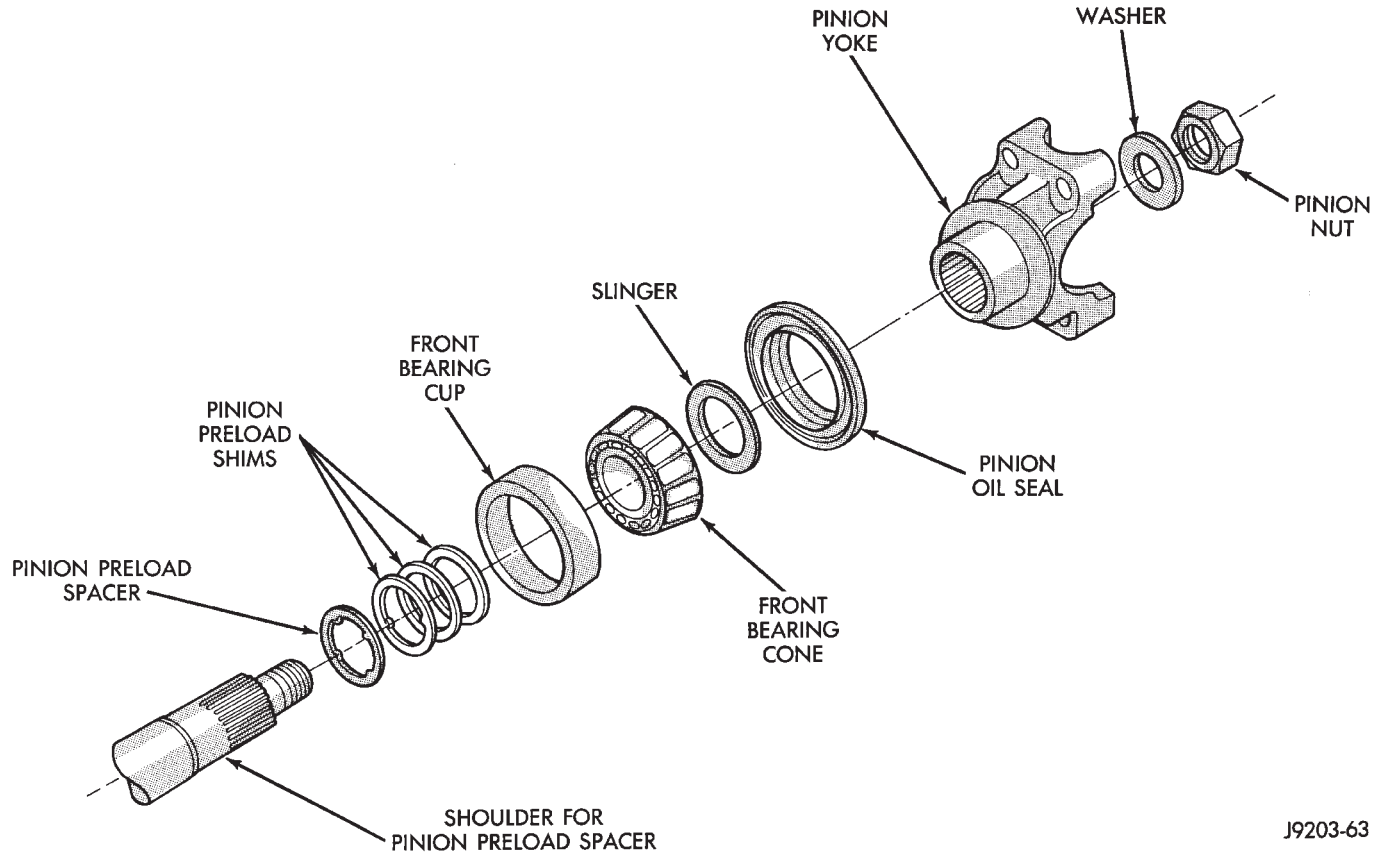
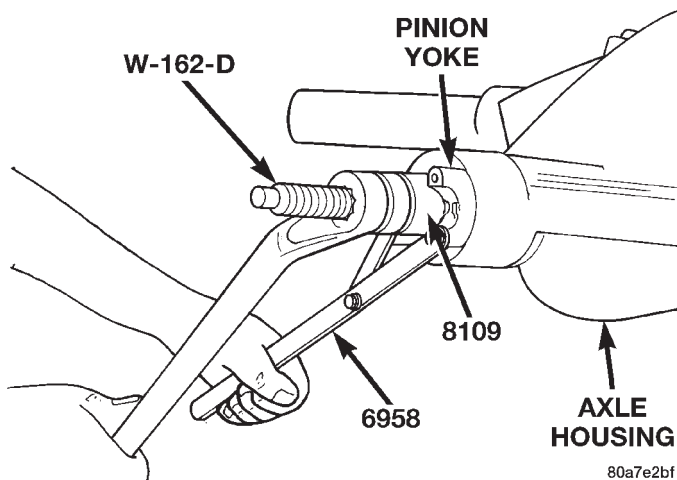

Fig. 37 Pinion Preload Shims—Typical
Fig. 38 Pinion Yoke Installation
(7) Install pinion bearing preload shims onto the pinion gear (Fig. 37).
(8) Install pinion gear in housing.
(9) Install yoke with Installer W-162-B, Cup 8109, and Holder 6958 (Fig. 38).